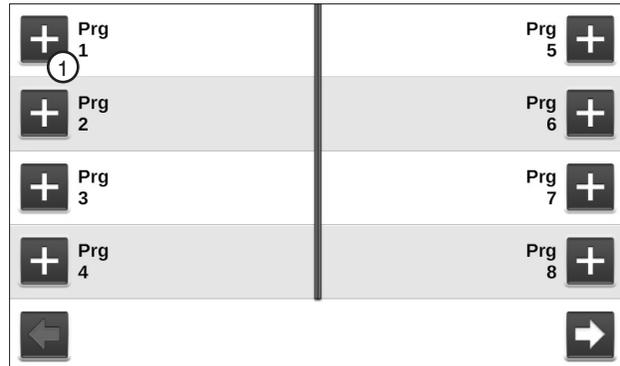

Figure 140-1 1. New Program
1. Push **Menu**, **Programs** and **Step Programs** to view the Step Programs screen. Refer to Figure 140-1.